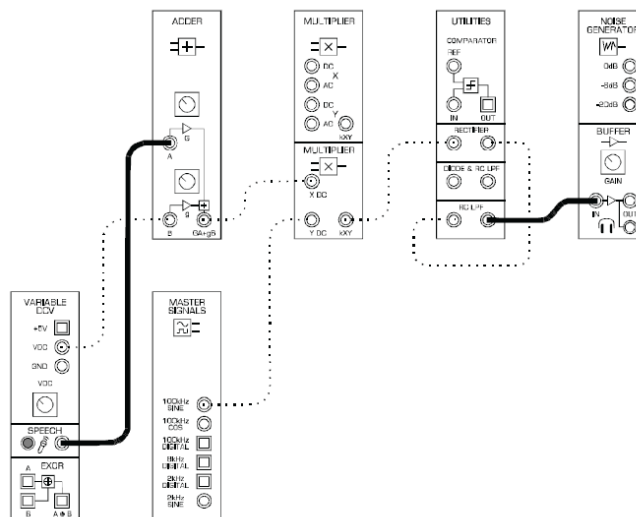

Figure 5.5 Connections for speech transmission and recovery by AM.
3. Modify the set-up as shown in Figure 5.5 below.